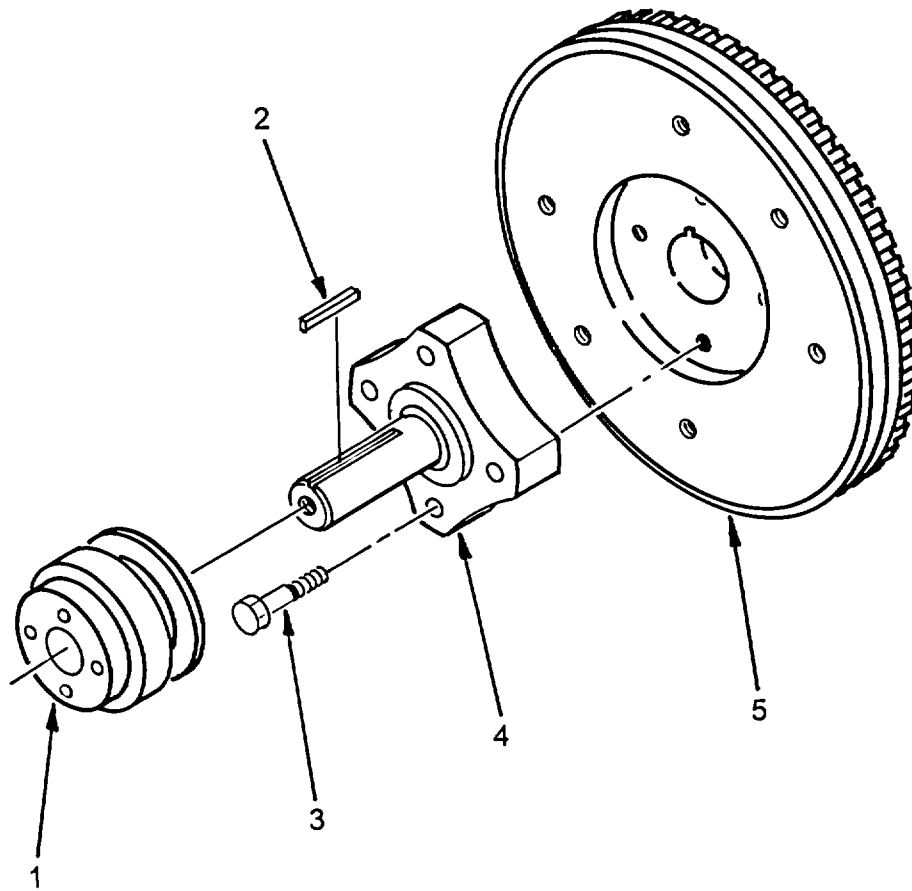

Figure 4-39. Flywheel Pulley and Shaft
- (a) Install lower seal (8) and upper seal (7) over center bolt (1) in filter bowl (3).
- (b) Install bowl seal (6), element washer (5) and filter element (4) on filter head (2).
- (c) Install filter bowl (3) on filter head (2) and tighten center bolt (1).
- (d) Fill the fuel tank and prime the filter by loosening both vent screws (22) on filter head (2).
- (e) When no further air bubbles are escaping, close both vent screws (22) starting with the one nearest the fuel tank.
(1) Removal. (Refer to Figure 4-39.)
- (a) Using a wheel puller, pull the flywheel pulley (1) from extension shaft (4). Remove key (2) from shaft.
- (b) Remove bolts (3) to remove extension shaft (4) from flywheel (5)
(2) Repair.